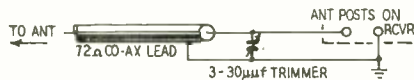

Fig. 1—"Matching stub" for co-ax lead.
A. You're quite correct in your assumption that standing waves may exist to some extent on co-axial cable. Coupling methods would have to be quite perfect for every trace of standing waves to be eliminated. There is a simple aid for that particular type of installation. (See Fig. 1.) At the antenna binding